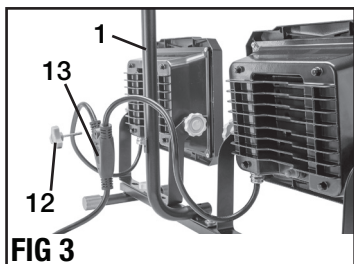

FIG 3
3. Use a twist knob (12) to attach the power cable connector (13) to the carrying handle as shown in FIG 3.